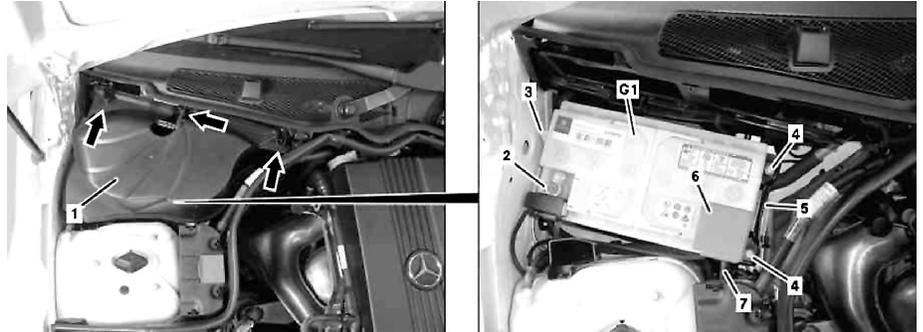

Fig. 1 Battery removal
1. Unclip air duct (1) (arrows) and remove, **Fig. 1**.
2. Loosen nut (2), and remove ground line from terminal of on-board electrical system battery (G1), **Fig. 1**.
3. Remove positive line from terminal of on-board electrical system battery (G1), **Fig. 1**.
4. Disconnect vent hose (3) from on-board electrical system battery (G1), **Fig. 1**.
5. Remove bolts (4) of mounting rail (5), **Fig. 1**.
6. Remove mounting rail (5), **Fig. 1**.
4. Connect vent hose (3) to on-board electrical system battery. Pay attention to correct seat of vent hose (3), **Fig. 1**.